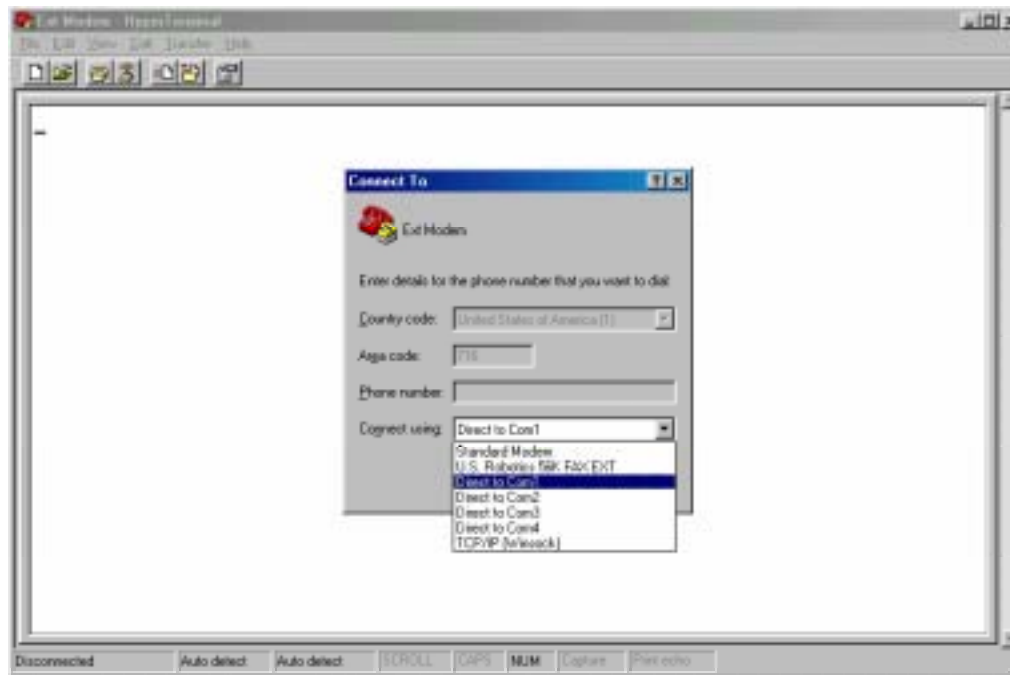

Figure 5: Com Port Selection within HyperTerminal
3. Once connected, select the appropriate Com Port within HyperTerminal. See *Figure 5* on page 131.